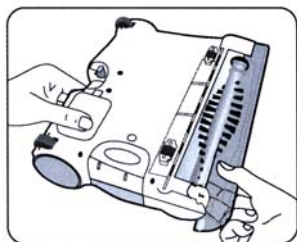

Fig. 7
4. Periodically remove the transparent brush cover on the front of the cordless sweeper and remove any build up of lint, hair or fiber on the rotating brush. To remove the cover - grip the cover from the bottom, pull out and upward until the cover unlocks from the side slots and tabs located on the top of the sweeper. (Fig. 7)